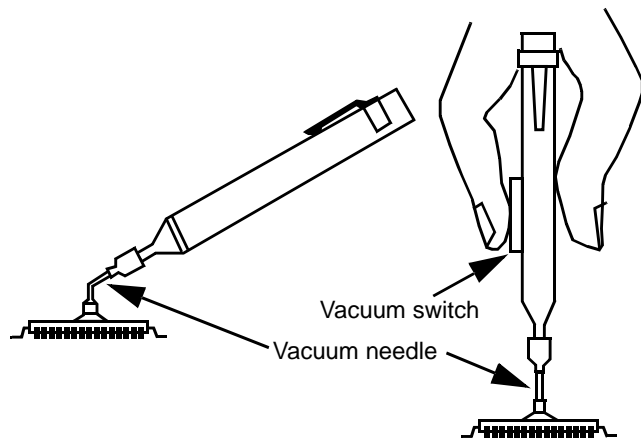

Figure 2 • Vacuum Wand
1. Position the vacuum needle at the proper angle so that your index finger can rest on the vacuum switch (see Figure 2).